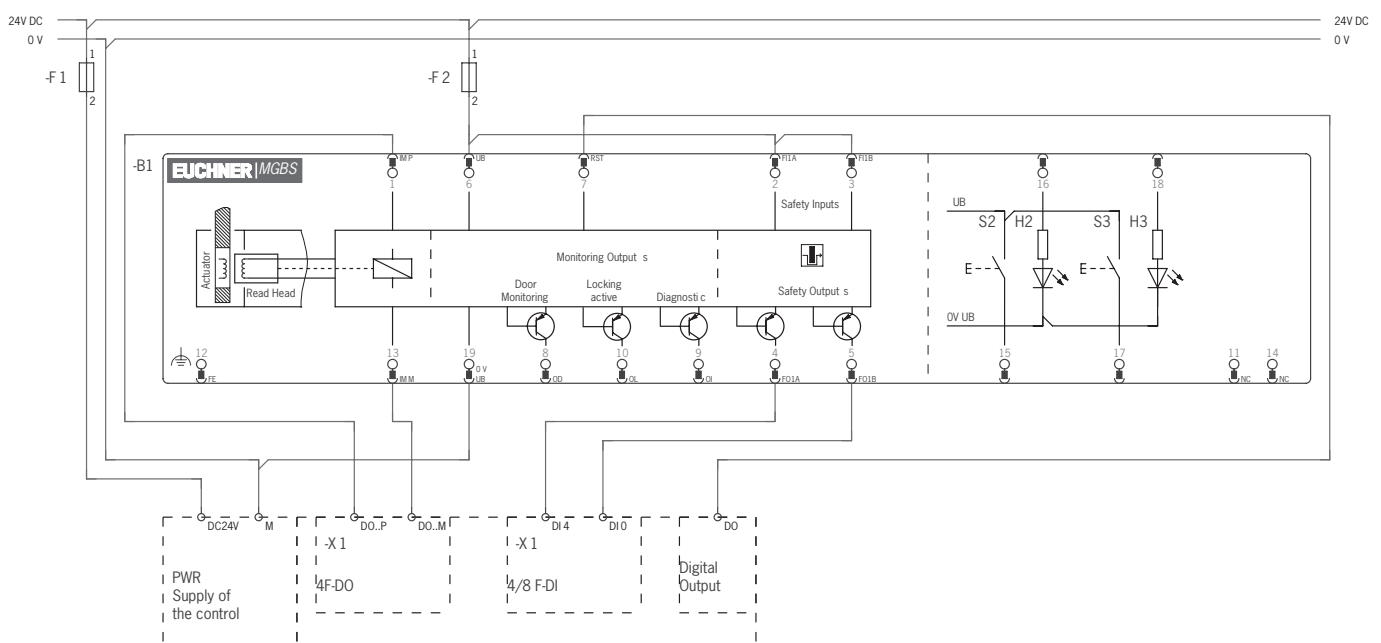

Fig. 7: Connection example for the connection to ET200
- For dual-channel control of the solenoid voltage by safe outputs of a control system, the following points must be observed (see also Fig. 7 on page 35):